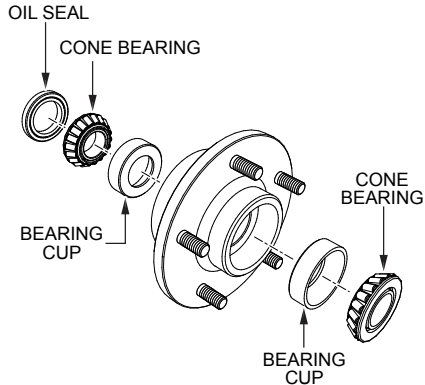

Figure 45. Wheel Hub and Bearings
1. After **every 3 months** of operation, remove the hub dust cap and inspect the wheel bearings (Figure 45). Once a year, or as needed, disassemble the wheel hubs and remove the old grease. Then repack the bearings, forcing grease between the rollers, cone and cage with a good grade of high-speed wheel bearing grease. **NEVER** use grease heavier than 265 ASTM penetration ('No. 2').
2. Fill the wheel hub (Figure 45) with grease to the inside diameter of the outer faces and also fill the hub grease cap.